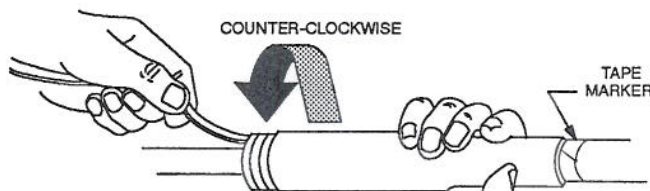

Figure 3
- 5 Hold PS assembly and pipe in proper position with one hand and unwind core counter-clockwise with the other hand. (Figure 3)